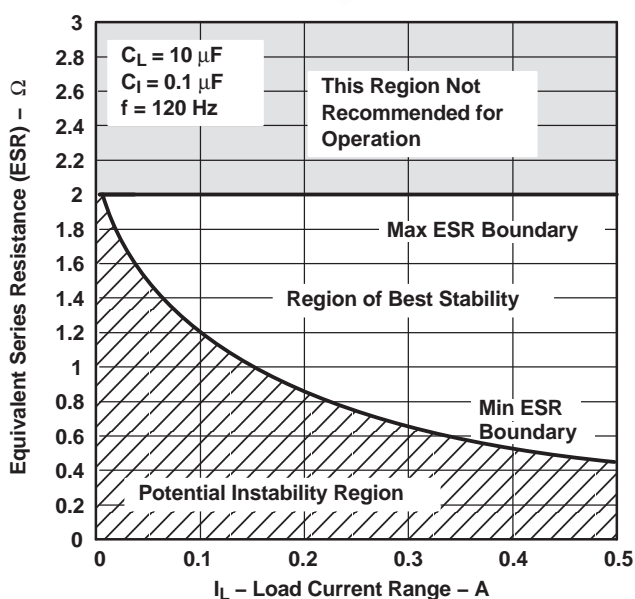
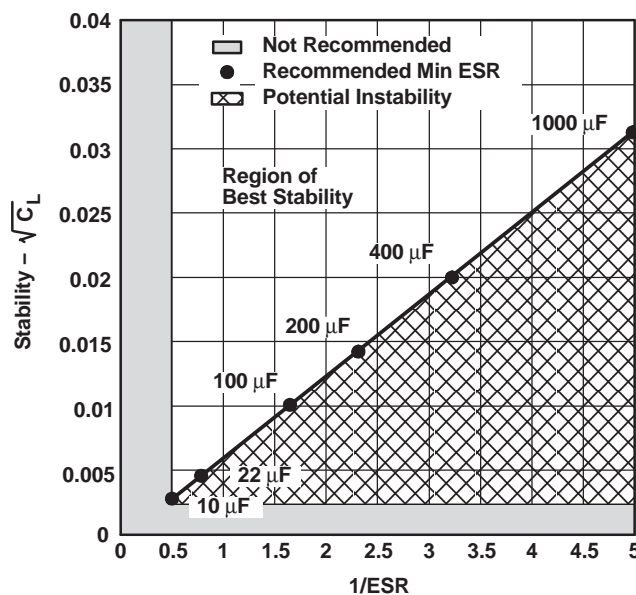

Figure 1.
Figure 2.
(1) Pulse-testing techniques maintain the junction temperature as close to the ambient temperature as possible. Thermal effects must be taken into account separately. All characteristics are measured with a $0.1\text{-}\mu\text{F}$ capacitor across the input and a $10\text{-}\mu\text{F}$ tantalum capacitor on the output, with equivalent series resistance within the guidelines shown in Figure 1.
The TL750Mxx is a low-dropout regulator. This means that the capacitance loading is important to the performance of the regulator because it is a vital part of the control loop. The capacitor value and the equivalent series resistance (ESR) both affect the control loop and must be defined for the load range and the temperature range. Figure 1 and Figure 2 can establish the capacitance value and ESR range for the best regulator performance.
Figure 1 shows the recommended range of ESR for a given load with a 10-μF capacitor on the output. This figure also shows a maximum ESR limit of 2 Ω and a load-dependent minimum ESR limit.
For applications with varying loads, the lightest load condition should be chosen because it is the worst case. Figure 2 shows the relationship of the reciprocal of ESR to the square root of the capacitance with a minimum capacitance limit of 10 μF and a maximum ESR limit of 2 Ω. This figure establishes the amount that the minimum ESR limit shown in Figure 1 can be adjusted for different capacitor values.
For example, where the minimum load needed is 200 mA, Figure 1 suggests an ESR range of 0.8 Ω to 2 Ω for 10 μF. Figure 2 shows that changing the capacitor from 10 μF to 400 μF can change the ESR minimum by greater than 3/0.5 (or 6). Therefore, the new minimum ESR value is 0.8/6 (or 0.13 Ω). This allows an ESR range of 0.13 Ω to 2 Ω, achieving an expanded ESR range by using a larger capacitor at the output. For better stability in low-current applications, a small resistance placed in series with the capacitor (see Table 1) is recommended, so that ESRs better approximate those shown in Figure 1 and Figure 2.